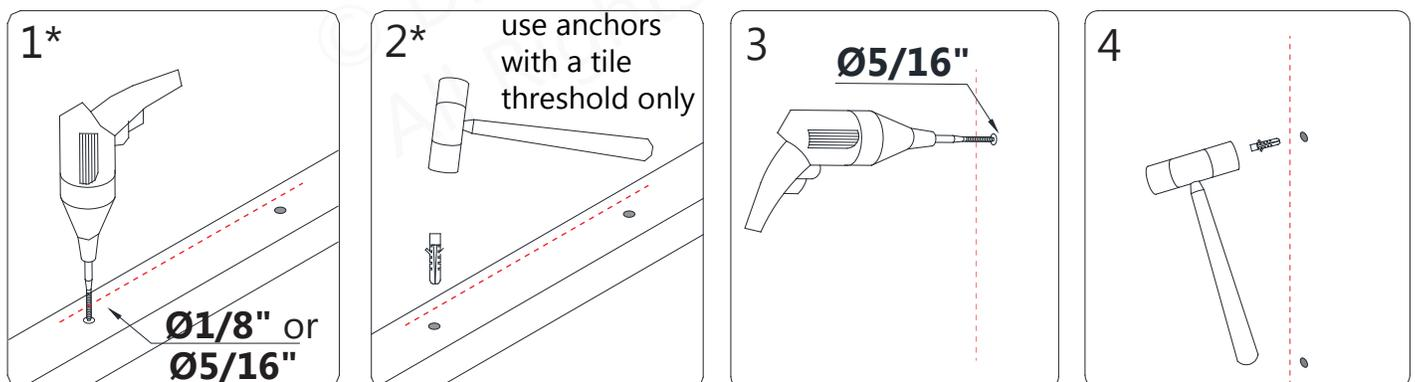

Fig 17
- **Ø5/16"** holes into the wall and insert the **Wall Anchors (#13)**. (Fig 17)